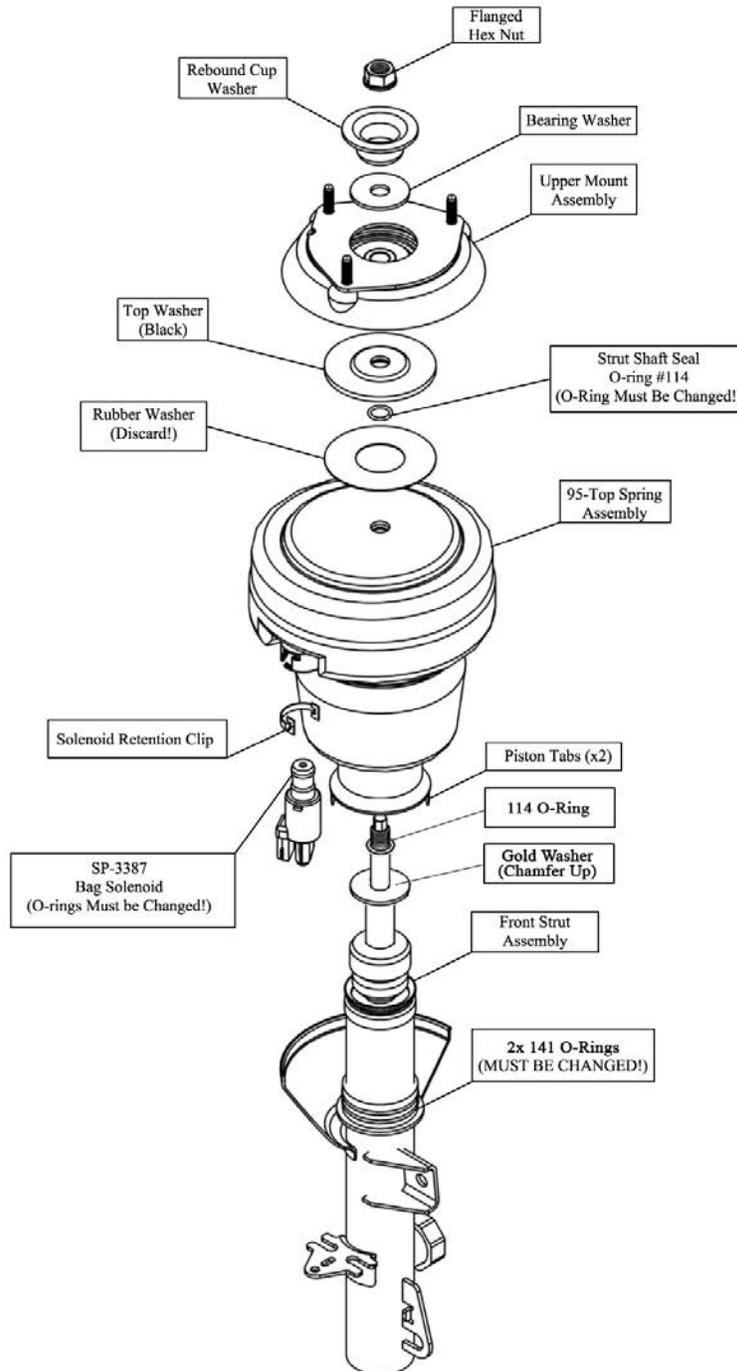

FIGURE 30-2
**NOTE:** REFER TO FIGURE 30-2 FOR THE PLACEMENT AND DESCRIPTION OF ALL OF THE FOLLOWING PROCEDURES AND COMPONENTS.